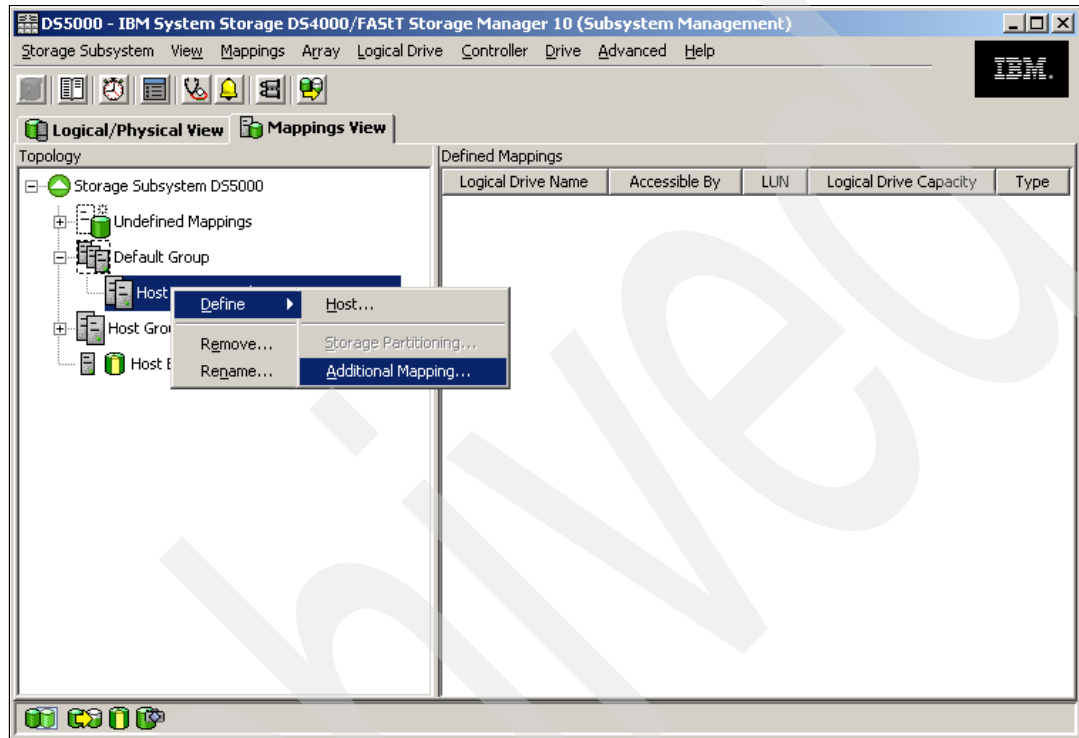

Figure 4-84 Define Additional Mapping
1. Right-click the host or group to which you want to map a new logical drive. Select **Define** → **Additional Mapping**, as shown in Figure 4-84.